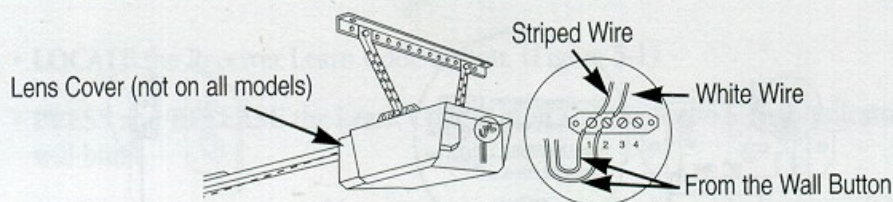

Figure 3-4
- CONNECT the WHITE Wire to one of the wall button terminals. (Figure 3-4)
- CONNECT the STRIPED Wire to the other wall button terminal. (Figure 3-4)